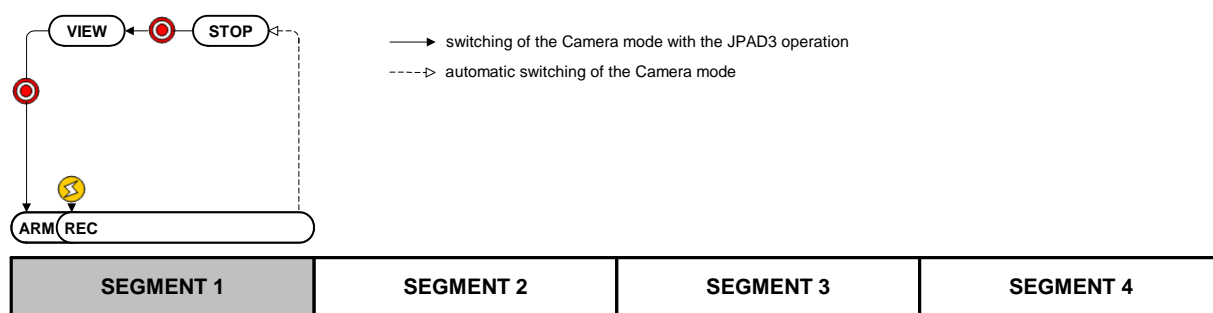

Figure 3-31 Normal Recording (NORMAL, number of segments : 4)
Figure 3-31 shows how to switch modes with the J-PAD3 during normal recording (top of the figure) and saving in the memory (bottom of the figure).
Burst trigger signals can save only the desired frames from the period recorded in the memory. As shown in Figure 3-31, only the frames during the period when the burst trigger signals are input (ON) are saved to the memory.
Figure 3-31 shows the number of frames for each recording time saved with three burst trigger signal inputs.